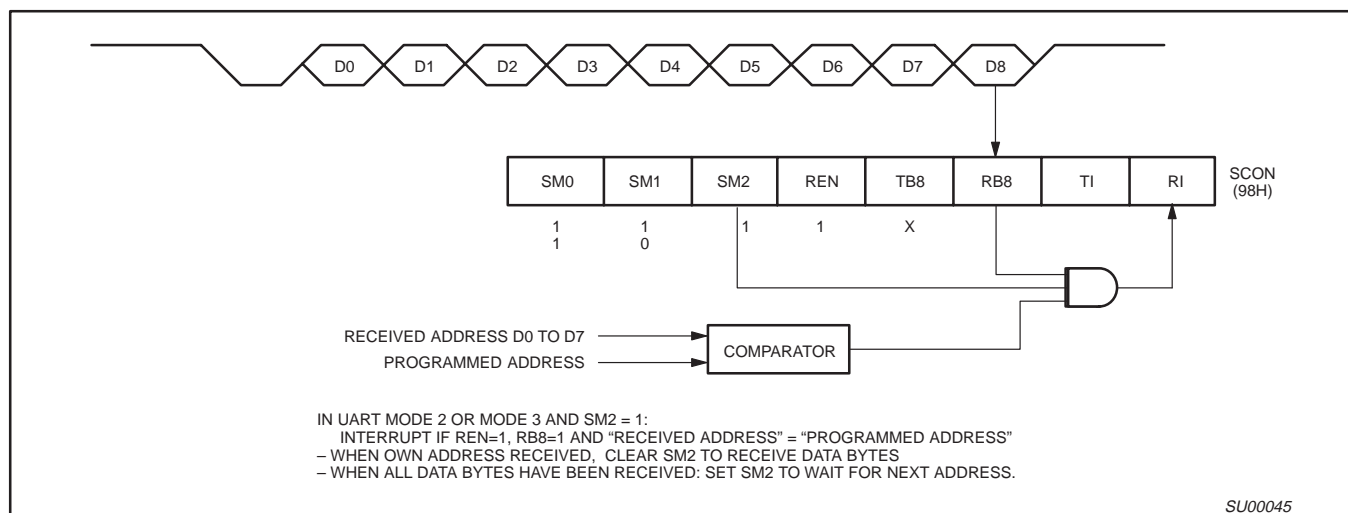

Figure 20. UART Multiprocessor Communication, Automatic Address Recognition
Automatic Address Recognition is a feature which allows the UART to recognize certain addresses in the serial bit stream by using hardware to make the comparisons. This feature saves a great deal of software overhead by eliminating the need for the software to examine every serial address which passes by the serial port. This feature is enabled by setting the SM2 bit in SCON. In the 9 bit UART modes, mode 2 and mode 3, the Receive Interrupt flag (RI) will be automatically set when the received byte contains either the "Given" address or the "Broadcast" address. The 9-bit mode requires that the 9th information bit is a 1 to indicate that the received information is an address and not data. Automatic address recognition is shown in Figure 20.